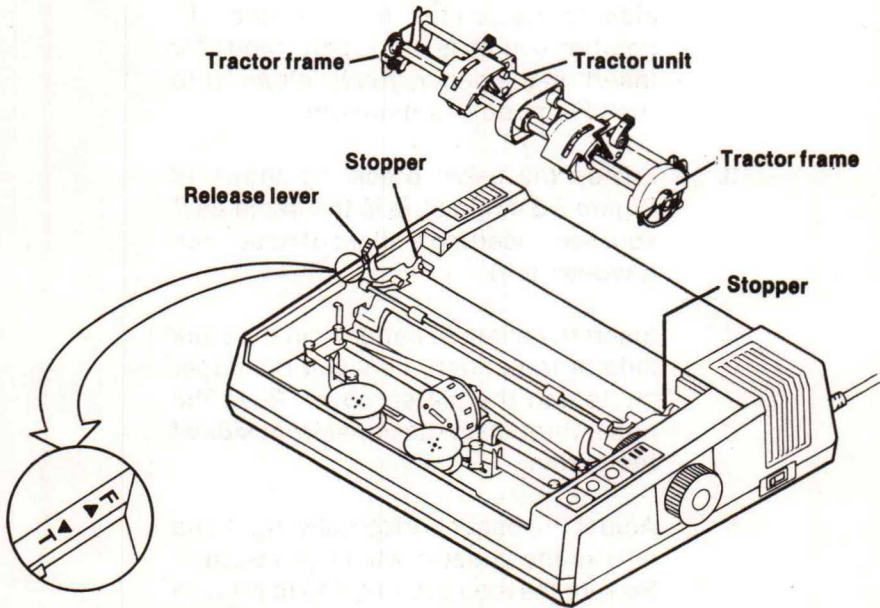

Figure 2-2. Tractor frames support the unit on the left and the right. Be sure to adjust the release lever when removing or mounting the tractor unit.
Superman may be able to stop a speeding locomotive, but you just lifted a tractor! With the tractor removed, your Gemini should look like the printer shown in Figure 2-2. (Of course, if you have a Gemini-15X your printer will be wider, but you still get the idea.)
**Note:** After removing the tractor unit you'll need to set the "release lever" when you are ready to print single sheets. The release lever is located on the left side of the printer (see Figure 2-2). This is somewhat like shifting an off-road vehicle from two-wheel to four-wheel drive. On the Gemini printers, you need to "shift" the release lever forward so it aligns with the "T" for "tractor" when the tractor unit is in use. But with the tractor unit removed, you need to shift the release lever backward so it aligns with the "F." (The "F" stands for "Friction feed," which is the "drive" setting for single-sheet and roll-fed paper.)